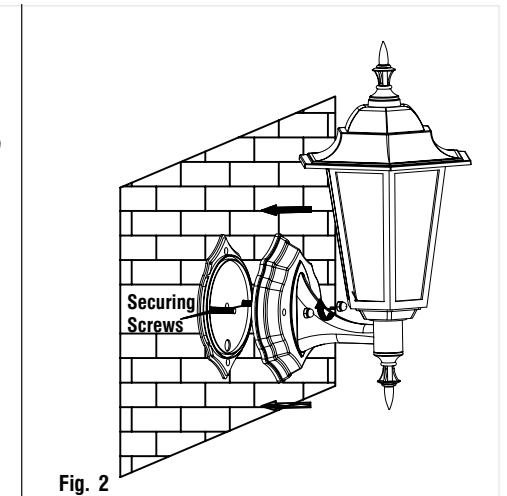

Fig. 2
- Place the light fitting over the threads of the securing screws and refit the rubber washers and finials to secure. Make sure the fitting is correctly oriented in a vertical direction (See Fig. 2 overleaf).